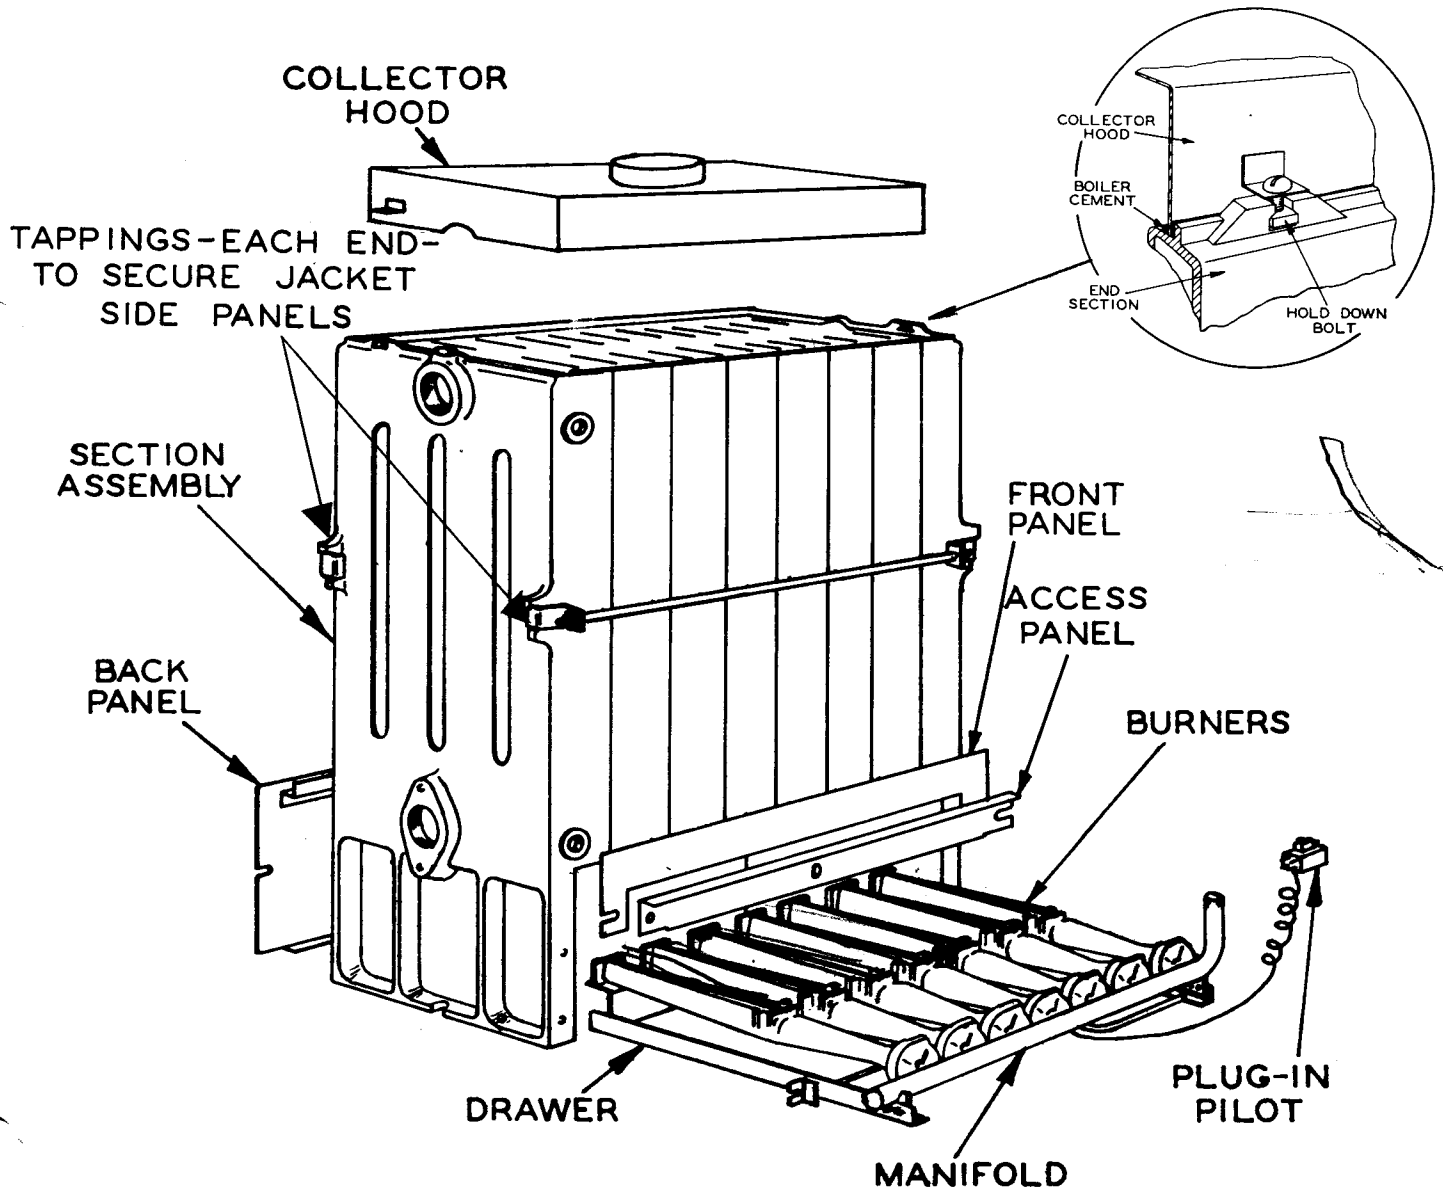
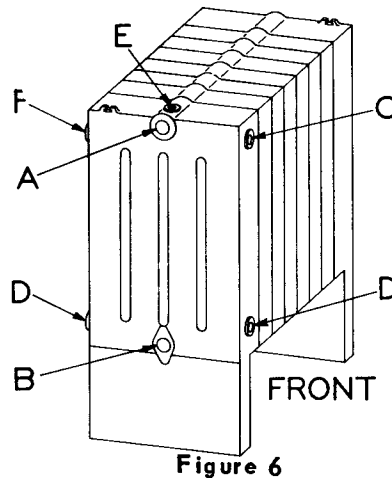
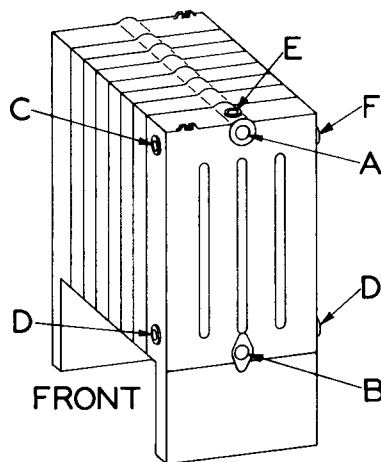

Figure 3
Figure 6
Figure 7
1. Position the section assembly on its foundation centered from left to right on the foundation and within 2" (measuring from the legs of the section assembly) of the rear of the foundation. The supply and return may be piped on either side by turning the section assembly with the tapping end in the direction for most convenient piping. Figure 3 below shows section assembly for L.H. supply and return. See tapping arrangement Charts and Figures 6 and 7, Page 5. (For combustible floor and close clearance, see Page 4.)
2. Place a generous amount of boiler cement all around the inside of the ridge on top of the assembled sections. Center the collector hood from left to right in the recess space provided on top of the section assembly. Secure the collector hood with the 5/16" x 5/8" bolts provided. Insert the square nut under the cast holding lugs and pass the bolt down through the collector hood tabs and turn down tight securing each end of the collector hood firmly to the section assembly. See Figure 3.
Seal any cracks with additional boiler cement between the hood and sections. Wipe the joints smooth. See detail drawing in Figure 3.
- Facing the side of the boiler which has been selected as the front, slide drawer assembly into position so that it fits between lugs provided on inner side of the end sections. See Figure 3.
used. This is determined by whether left hand arrangement per Figure 6 or right hand arrangement per Figure 7 is selected.